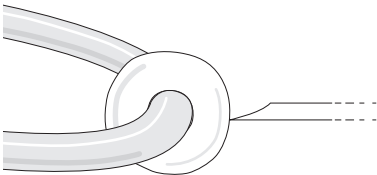

Fig. 24— Filament expands and contacts the tip
4. Press the RUN button. The filament expands, touching the tip of the beveled glass. As glass the bead becomes molten and the beveled tip makes contact with the bead, quickly pull the tip away and simultaneously release the RUN button to turn off the heat. (Fig. 24).